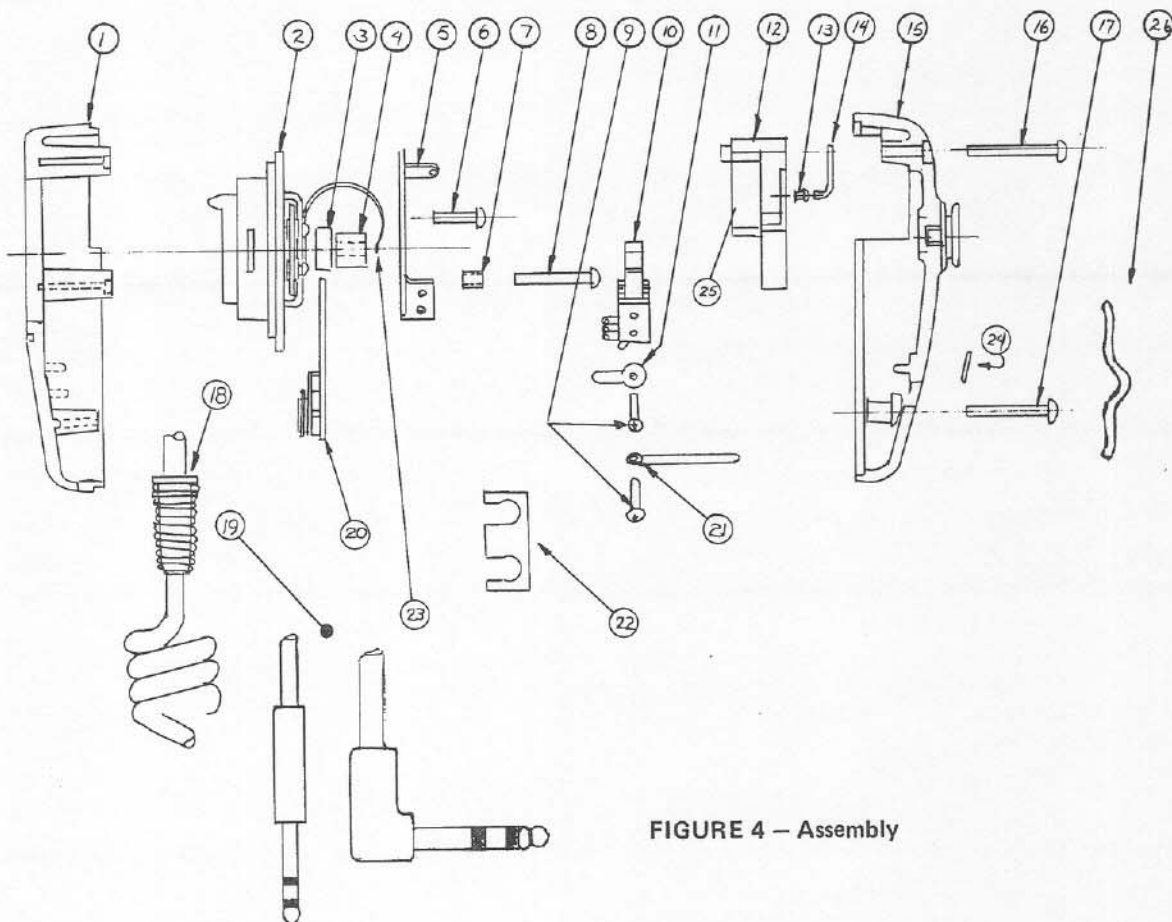

FIGURE 4 - Assembly
2. **Disassembly.** (See Figure 4)